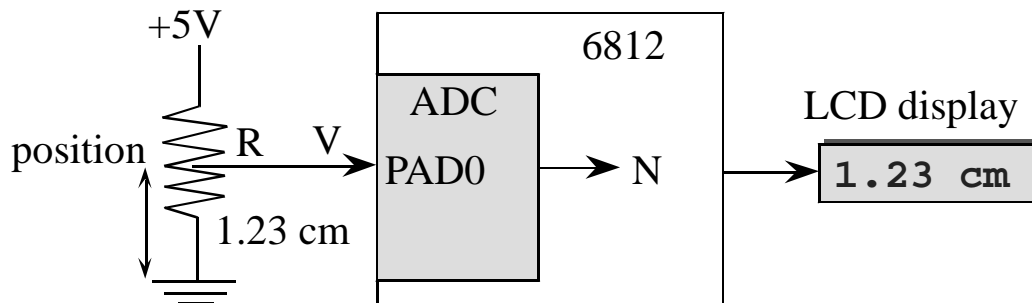

Figure 7.1. Possible interface.
You will design a position meter with a range of about 3 cm. The potentiometer converts position into resistance ($0 < R < 9k\Omega$). You will use an electrical circuit to convert resistance into voltage (V). Since the potentiometer has three leads, one possible solution is shown in Figure 7.1. The 6812 ADC will convert voltage into a digital number (N). Your software will calculate position from the ADC sample. The position measurements will be displayed on a LCD. You should use the LCD interface developed in a previous lab.